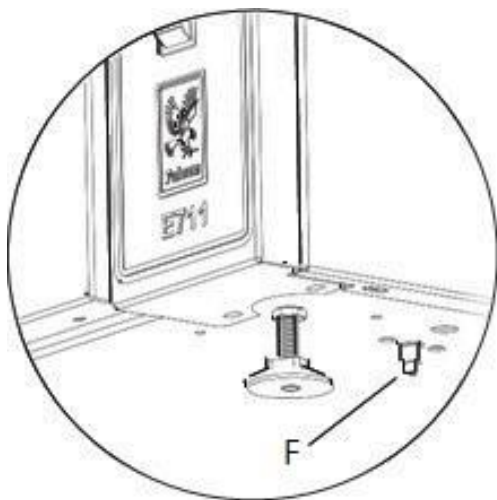

Figure 2
Refer to figure 2
This ensures that the oven does not overheat. If the device trips, it may be reset by pushing button (F) On the underside of the oven. Refer to figure 2.